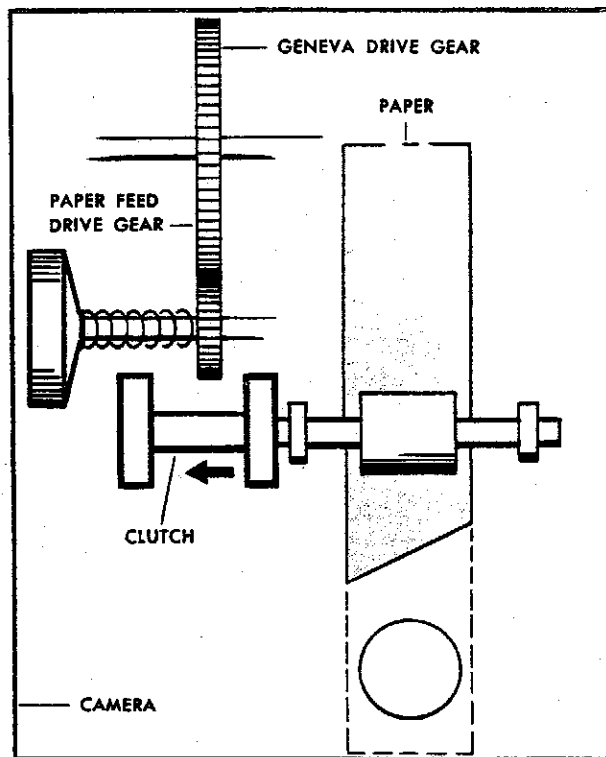

Figure 2. Paper Feed-Down Clutch
3. Open camera door and disengage gears that drive paper feed rollers by pulling and holding clutch to the left (see figure 2).